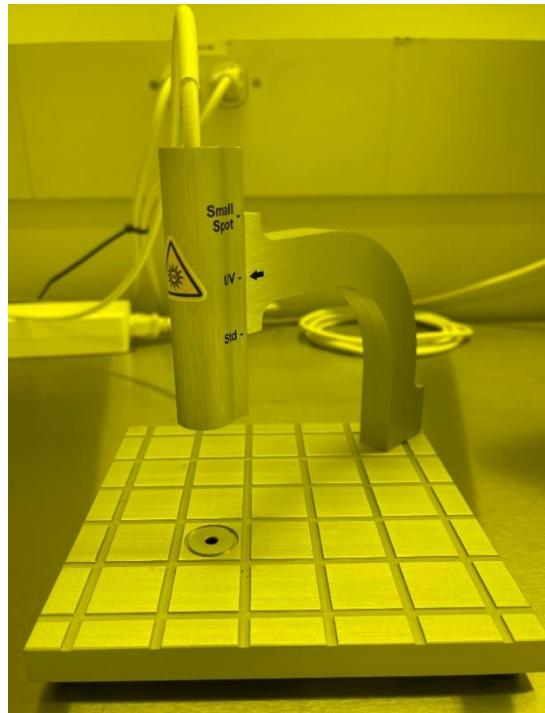

Figure 6. F20-UVX Fiber Optic Detector and the Empty Sample stage
5. The sample stage is shown in Figure 6. Place a bare Si wafer under the F20-UVX fiber optic detector on the sample stage.